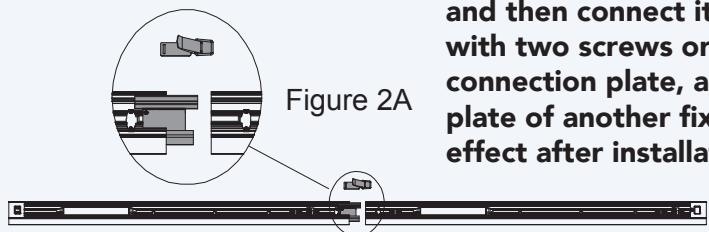

Figure 2A
Step 2: Insert H mechanical joiner into one side of fixture, and then connect it to another fixture. You can fix H with two screws or not. Put the spring buckle on the connection plate, and then buckle it on the connection plate of another fixture. As shown in Figure 2A. The effect after installation is shown in Figure 2B